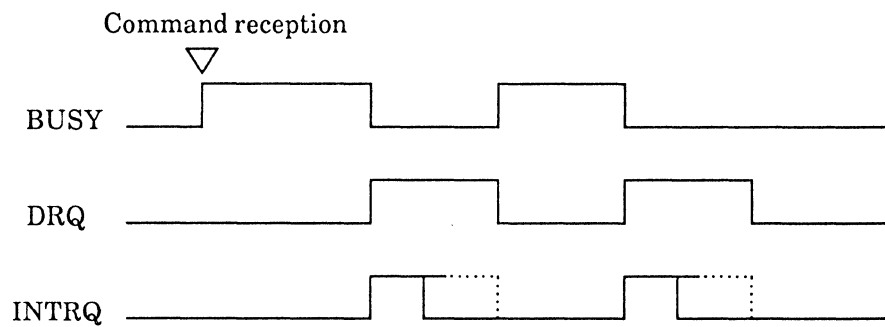

Figure 4.3 BUSY and DRQ timing
- (1) The RESET – signal becomes active or the SRST bit of the device control register becomes “1”.
- (2) The host writes the command register. Figure 4.3 illustrates the relationship between the BUSY bit and the DATA REQUEST bit (DRQ) during multi sector read/write.